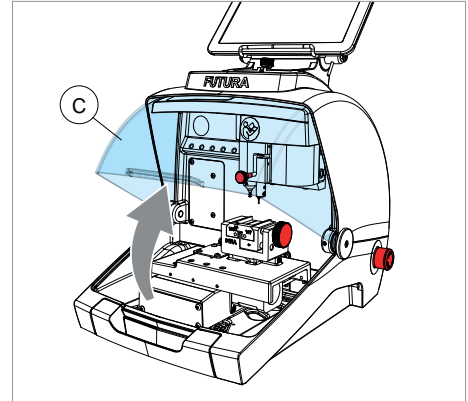

Fig. 8
The shield (C) must be raised in order to fit keys for cutting or carry out other operations (Fig. 8).